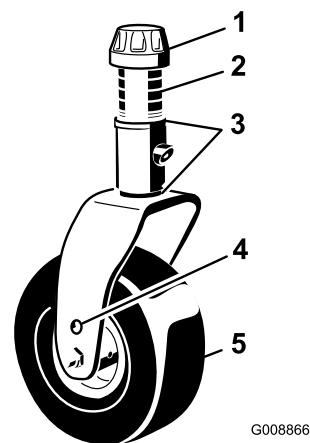

Figure 28
- Remove the tensioning cap from the castor spindle shaft (Figure 28) and slide the castor shaft out of the castor arm. Put 2 shims (1/8 inch [3 mm]) onto the shaft as originally installed. Slide the appropriate number of 1/2 inch spacers onto the shaft to get the desired height-of-cut.